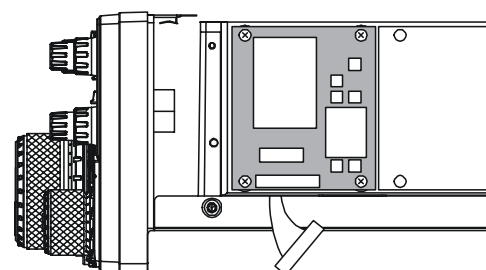

Figure 3
4. Mount the SCOPE Unit using the supplied four screws (Figure 3).